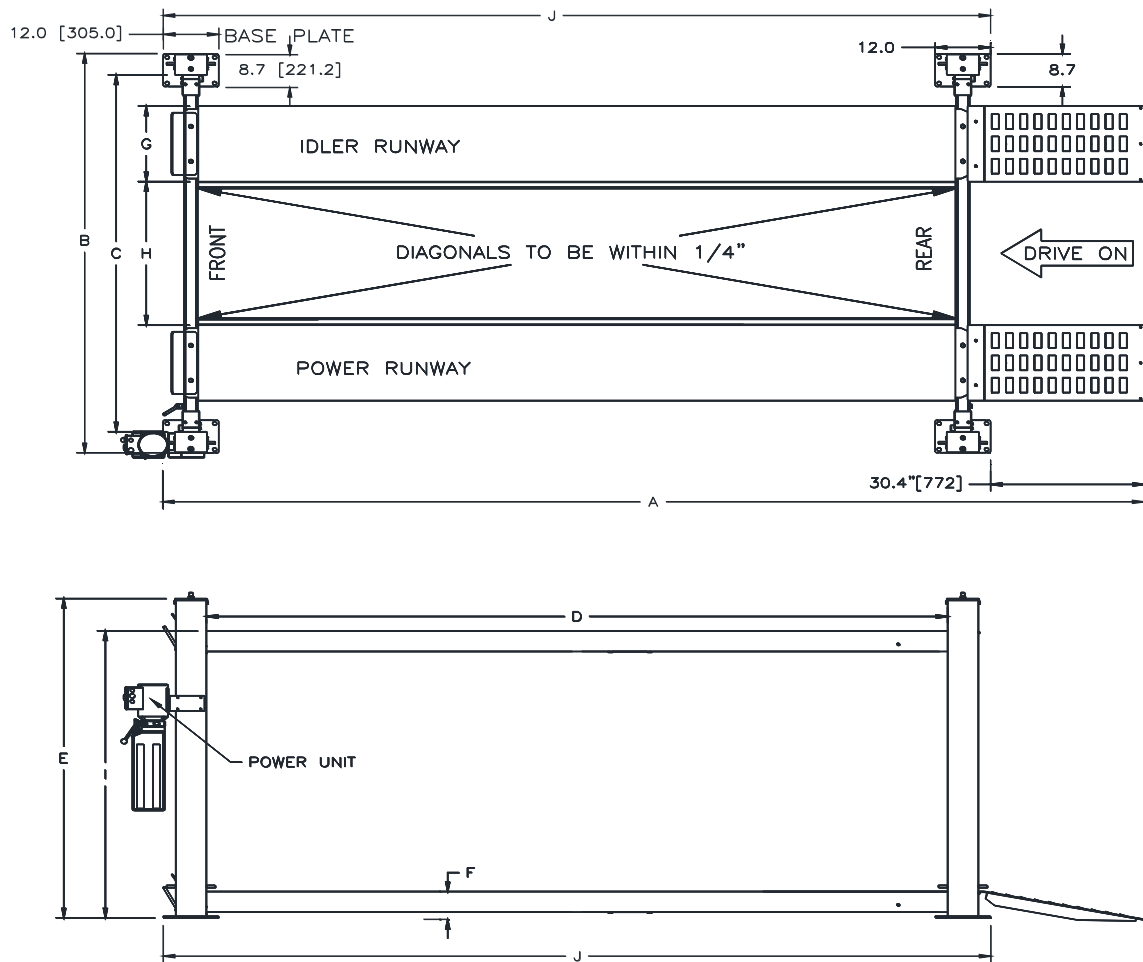
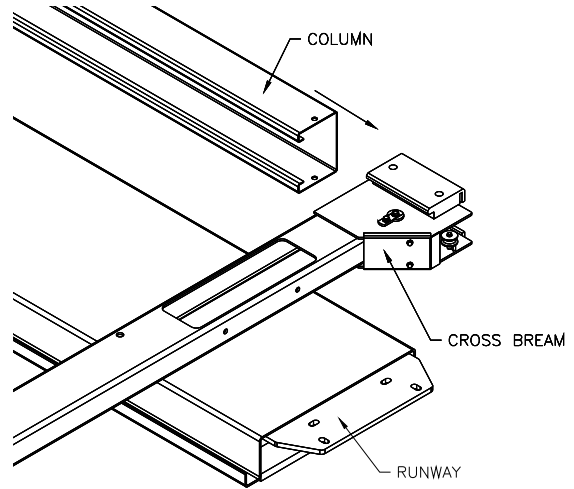

Fig 1 – General Specifications and Service Bay Layout
Fig 5 – Column/Cross Beam Assembly
- Lay out the service bay according to the architect's plans or owners' instructions (**see Fig 1**). Be certain that the proper conditions exist, see pages 2 & 3.
- 5) Remove the top cap and ladder bar from each column assembly and place the columns close to each corner per layout (**Column with the power unit bracket goes at the front left column position per Fig 1**).
- 6) With the runways spaced per **Fig 1**, lay the cross beams on the runway per **Fig 5** below. Place cardboard between the runway and cross beam. Slide the column over the ends of the slide blocks on the cross beam. Repeat for each column.